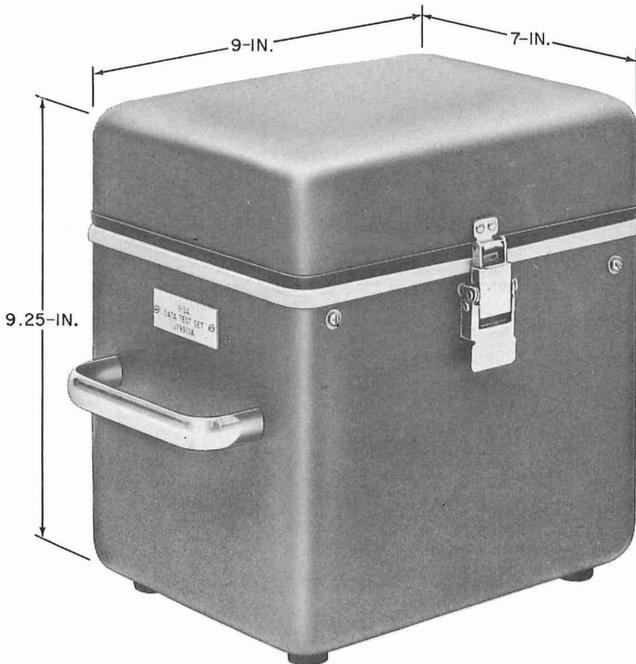

Fig. 2—913A Data Test Set (Parallel Adapter), Front View
2.05 The 913A Data Test Set is enclosed in a dark gray case and has dimensions as shown in Fig. 2. It weighs 9 pounds.
2.06 To gain access to the dials and indicators, remove the data test set cover by releasing the latches and removing the cover (Fig. 2). This cover provides storage for cable ED 73243.